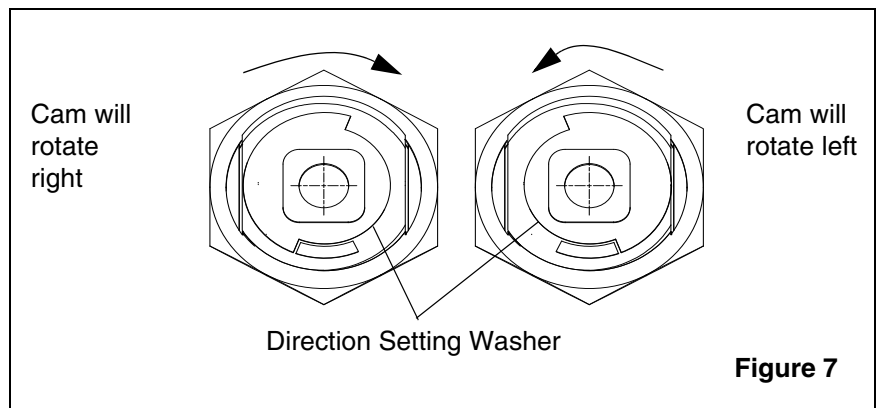

Figure 7
- Install the remaining parts in the following order: Direction Setting Washer, Cam (saved from previous lock), Flat Washer, Lock Washer, and Retaining Screw. (Figure 7)